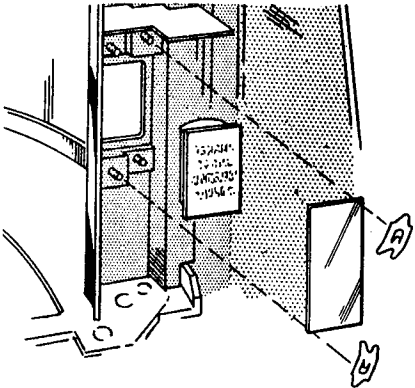

Figure 4.
2. In the 2-credit position, the lower left credit window lights up to indicate "10¢ Credit – Another Coin Required". This credit window, *Part No. 505553* is available from your Seeburg Distributor and is installed as shown in *Figure 4*.